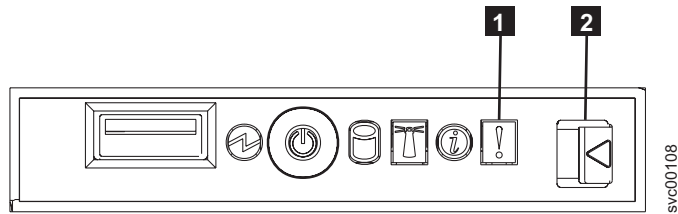

Figure 155. Operator information panel
4. Press the operator panel release latch **2** and slide the operator information panel away from the SAN Volume Controller 2145-8F2. See Figure 155 on page 410.